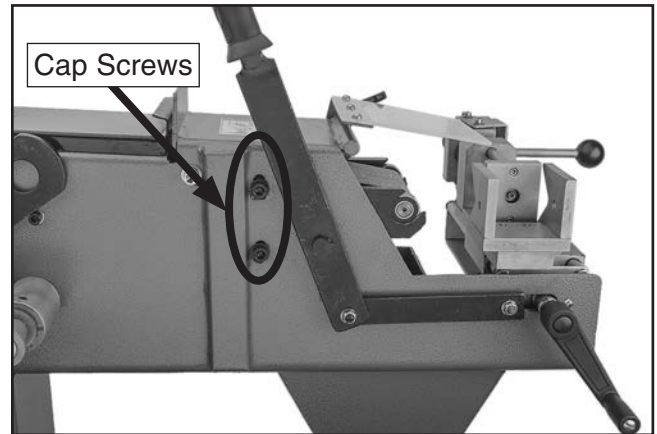

Figure 40. Location of roller support bracket cap screws.
3. Loosen the two roller support bracket cap screws shown in **Figure 40**.